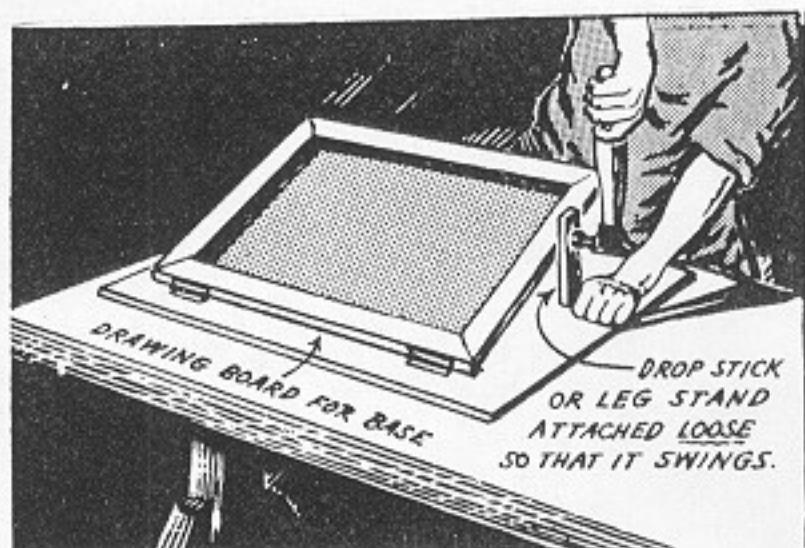

Fig. 42. Fastening Leg Stand in Place
1. The simplest and most common method is to attach a drop stick about 10" to 12" long to the side of the frame, Fig. 42. It should be attached in such a manner that it swings loosely and will drop into position when the frame is raised. Such a strip of wood is frequently called a *leg stand*.